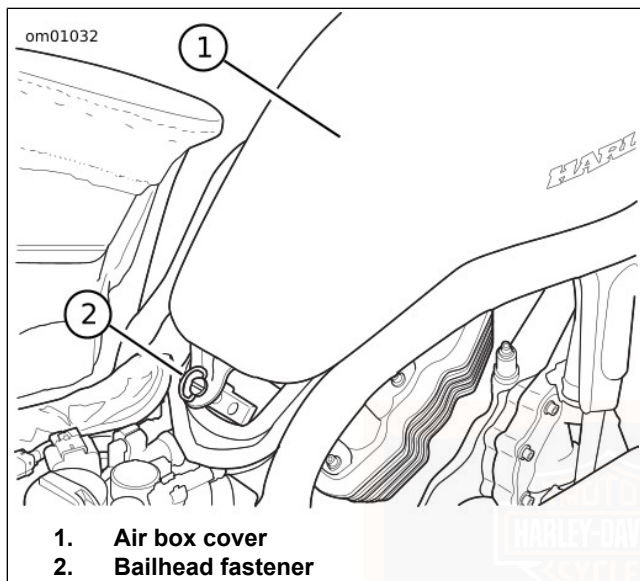

Figure 42. Air Box Cover
3. See Figure 42. Remove the air box cover by turning the bailhead fastener 1/4 turn counterclockwise. Pull the air box cover away from the front locating holes.
13. See Figure 42. Position the air box cover with the locating pins in the holes on the frame tabs.